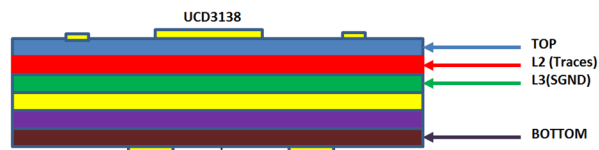

Figure 5-1. Single Ground Plane for a Power Module Design
- In power module or a tiny PCB design, a single solid plane without the grounding separation is shown in Figure 5-1 and has a single point connection with power RTN or SGND near the connector. Ensure there is no current flow from power train into the signal ground plane.